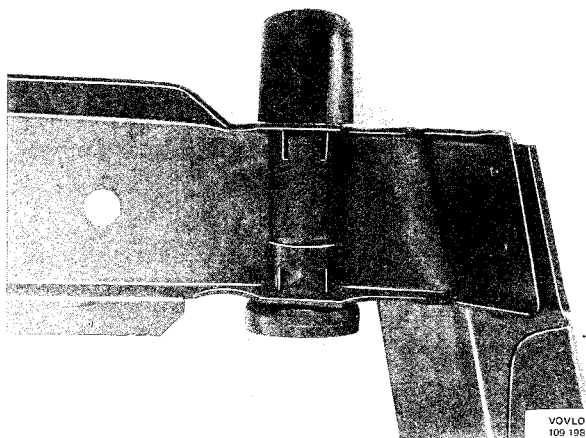

Fig. 8-61. Fitting head restraint bushings
- E. Install new bushings (locks), see Fig. 8-61.